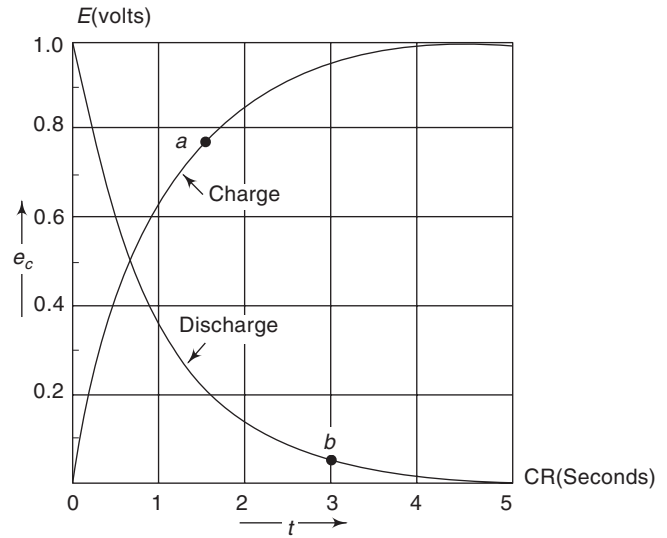

Fig. 8.10 Normalised Charge and Discharge Curves for an RC Circuit.
Normalised charge and discharge curves are drawn in Fig. 8.10. These curves can be employed to *graphically* solve many problems. The *normalised curves* are plotted for the case of $E = 1\text{ V}$, $C = 1\text{ F}$, and $R = 1\text{ }\Omega$. For these values, the capacitor voltage can be determined at any given time t after commencement of charge or discharge.
8.8 Using the normalised charge and discharge curves in Fig. 8.10, determine